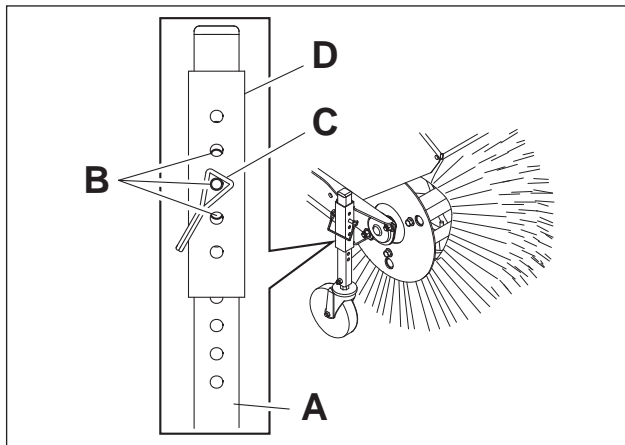

Fig. 002
7. For fine tuning adjustments, slide the adjuster sleeve one pin hole up or down on the caster wheel tube to adjust the broom height in 1/8" (3 mm) increments (Fig. 002). Repeat for the other caster wheel.